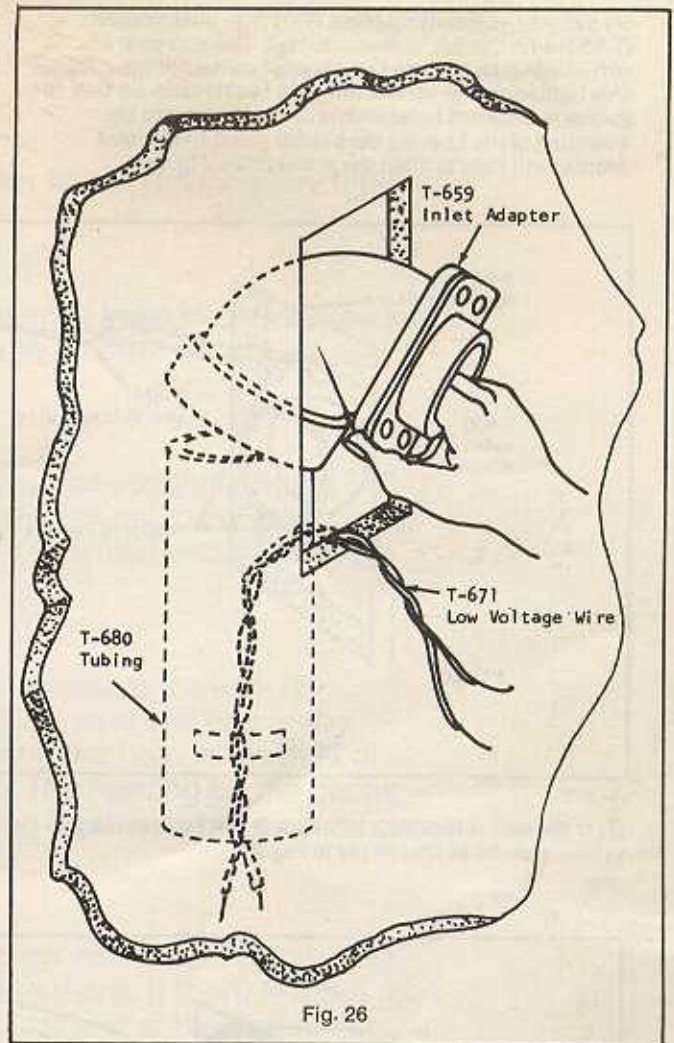

Fig. 26
(2) Wiring for the low voltage controls, T-671 (#22/2), should be looped from one inlet to the next before installing the tubing or wall inlets. Run the wiring through the same openings drilled for the tubing. Leave approximately 12" of wire at each inlet opening and secure to prevent accidental withdrawal prior to completion.
(3) Insert vertical 2" PVC tubing through hole. Top of 2" PVC must extend 1 13/16" above lower edge of rectangular wall opening. Fig. 26.
(4) Apply cement to outside end of the vertical 2" PVC tubing. Insert inlet adapter through opening and push securely onto the 2" PVC tubing. Fig. 26.